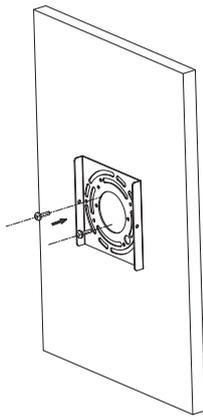

Fig 1
1. Fix the mounting plate on the wall. (Fig 1)